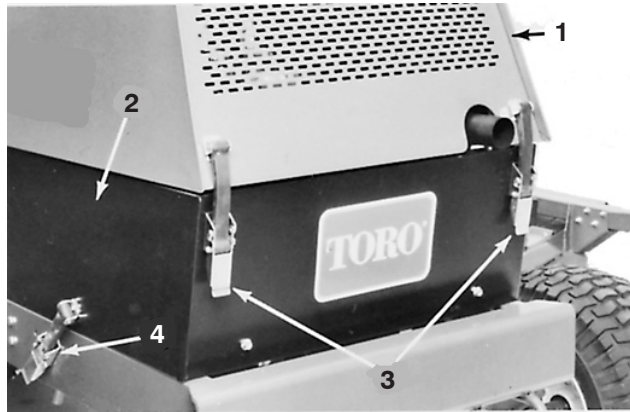

Figure 36
1. Unlatch and raise hood and prop it open. Unlatch and remove left side panel (Fig. 36). Make sure hood prop is secured in one of the mounting brackets on hood.
1. Unlatch and raise hood and prop it open (Fig. 36). Make sure hood prop is secured in one of the mounting brackets on hood. Unlatch and remove both side panels (Fig. 36).